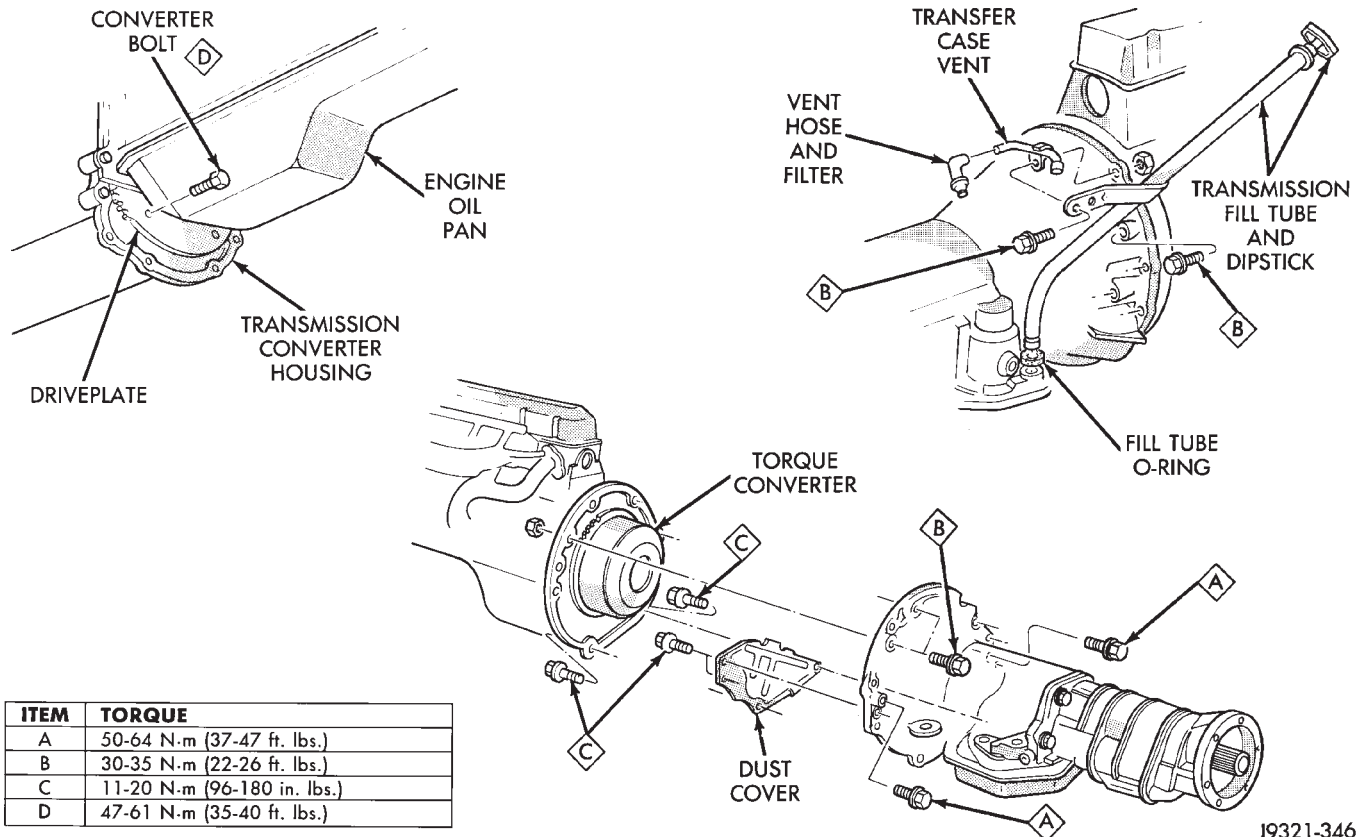
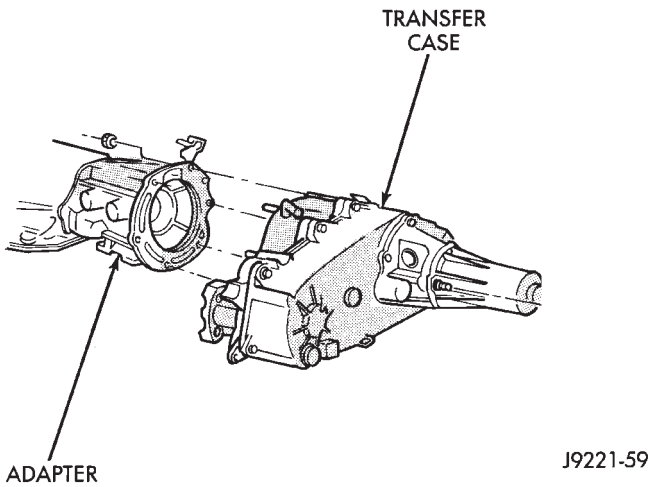

Fig. 6 Transmission And Fill Tube Mounting
Fig. 7 Transfer Case Attachment
(11) Move transmission forward until seated on engine block dowels. Then install one or two transmission attaching bolts to hold transmission in place (Fig. 6).
(13) Install torque converter bolts. Tighten bolts as follows:
(14) Install and tighten remaining transmission attaching bolts (Fig. 6).
(15) Install and connect crankshaft position sensor.
(16) Install dust cover on transmission converter housing. Two small vise grip pliers can be used to hold and align cover during installation.
(17) Install and connect starter motor.
(18) Connect transmission shift and throttle valve cables to valve body manual shaft and transmission brackets.
(19) Fasten wire harnesses in clips on transmission case.
(20) Connect wires to solenoids, park/neutral position switch, transmission speed sensor and vehicle speed sensor.
(21) Install transmission fill tube and O-ring.
(22) Install rear crossmember and attach rear insulator to transmission and crossmember.
(23) Connect cooler lines to transmission case fittings. Pull lines outward to verify that they are securely seated and retained by wire retainer clips.
(24) Align and install propeller shaft. **Clean and lubricate slip yoke before installation.**
- (11) Move transmission forward until seated on engine block dowels. Then install one or two transmission attaching bolts to hold transmission in place (Fig. 6).
(12) Verify converter bolt length. Bolt measurement is from bottom (underside) of bolt head to end of bolt threads.
(15) Install dust cover on transmission converter housing. Two small vise grip pliers can be used to hold and align cover during installation.
(16) Install starter motor.
(17) Install strut brackets that secure transmission to engine block and front axle.
(18) Install and connect crankshaft position sensor. Be sure sensor grommet is securely in place.
(19) Install transmission fill tube. Install new O-ring seal on tube before installation (Fig. 6).
(20) Connect exhaust Y-pipe to engine exhaust manifolds.
(21) Install shift linkage torque bracket.
(22) Connect shift linkage to transmission.
(23) Connect solenoid and park/neutral position switch wires.
(24) Connect wires to transmission speed sensor and vehicle speed sensor.
(25) Install crossmember on frame rails. Place crossmember at 45° angle to rails. Insert crossmember between rails and rotate crossmember into place.
(26) Install bolts/nuts attaching transmission to rear mount.
(27) Install bolts/nuts attaching crossmember to frame rails.
(28) Remove transmission jack.
(29) Install transfer case (Fig. 7). Align and position transfer case with transmission jack or with aid of helper. Tilt case upward and work into position on transmission mounting studs.